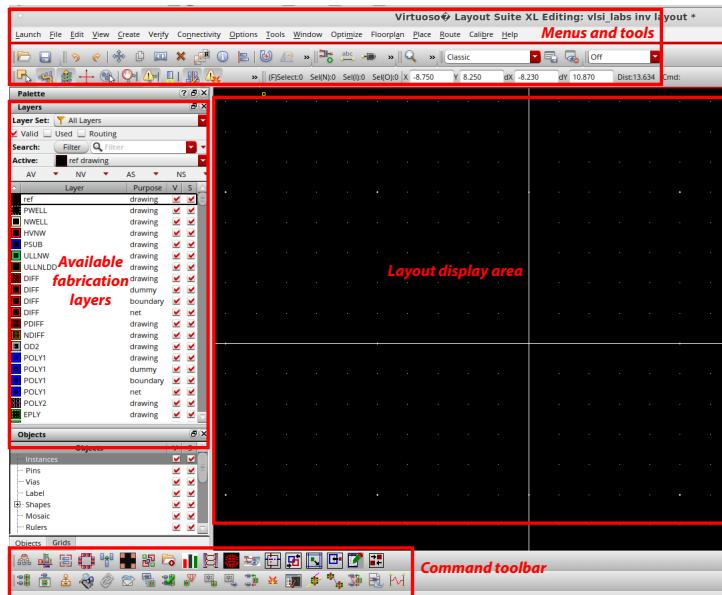

Figure 2: Layout XL window.
2. The Virtuoso® Layout XL Editor window will appear. All available fabrication layers are listed in the layer sub-window on the left (Fig 2). From here, you can select which current layers are visible (V) or selectable (S). You can also choose to only display the layers currently in use in your current layout but selecting *Used*. Many useful commands can be found in the command toolbar below the layout display area. Most of the shortcuts to save, delete an instance, rotate a component, *etc.* are located in the menus and tools area. As you saw in class, integrated circuits are manufactured through a lot of process steps and are composed by a large number of planar layers, stacked on top of each others. The layout is composed of the geometric shapes of each layers that corresponds to the actual pattern of those materials in your integrated circuit. Based on the layers you choose for your layout, precise masks will be generated during fabrication. This is why for a given layer (e.g. metal 1), several purpose layers are available (dummy, blockage, drawing).